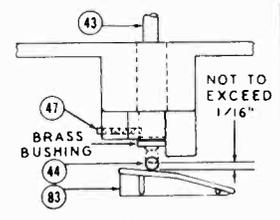
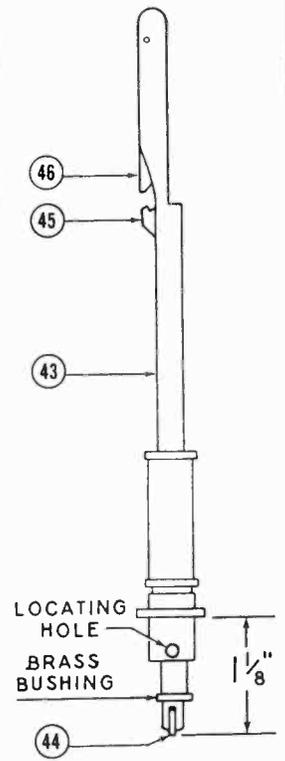

FIG. 3
FIG. 9
<p>7. Binding between Lift Rod (37) and inclined plane of Lift Arm Assembly (83).</p> <p>8. Center Post Roller (44) being compressed too far.</p> <p>9. Weak Motor (62).</p>	<p>To check for this action proceed as follows:</p> <ol style="list-style-type: none"> Replace Lift Rod (37) and Spring (38) taken off in steps 6d and 6e. Leave Center Post (43) in same position as in step 6g. Turn Control Knob (52) to "REJ." position and rotate Turntable (48) by hand until Lift Arm Assembly (83) has moved in one direction as far as it will go and is about to return. Raise Lift Rod (37) by pulling up. It may still be contacting the inclined plane of Lift Arm Assembly (83) but it should not bind. If binding does occur, check for bent lift arm bearing shaft. It may be necessary to remove Fibre Washer (84), which may be under Lift Arm Assembly (83), to lower the arm. <p>To check for this action proceed as follows:</p> <ol style="list-style-type: none"> Replace Center Post (43) released for steps 6g and 7b. Turn Control Knob (52) to "REJ." position and rotate Turntable very slowly by hand until Center Post Roller (44) reaches position on inclined plane of Lift Arm Assembly (83) illustrated in Fig. 3. It will be noted that "Brass Bushing" has also risen but at this point stops. A further movement of Lift Arm Assembly (83) causes roller shaft to move up into "Brass Bushing" a distance not to exceed $\frac{1}{16}$". Should the latter movement exceed this, it may cause the Lift Arm Assembly (83) to bind due to excessive pressure. In that event check the following: <ol style="list-style-type: none"> Bearing for Lift Arm Assembly must be square with the changer Base Plate (25). Remove any fibre washer between metal washer and bottom of Lift Arm Assembly (83). Center Post may be too long. The critical $1\frac{1}{16}$" dimension shown in Fig. 9 should not be exceeded. <p>After checking the preceding eight items and relieving any binding action, replace Idler Wheel (63). Should the changer then continue to stop during a change cycle, it may be assumed that the motor is weak (has low torque) and should therefore be replaced.</p>
Center Post (43) and Bearing Race (50).	To remove Center Post (43) loosen Set Screw (47) and withdraw post from top of changer. Turntable Washers (49) and Bearing Race (50) are held in place by Retaining Ring (51). To replace Center Post (43) first be sure that Turntable Washers (49) and Bearing Race (50) are in place. Next, insert Center Post (43) from top of changer and tighten Set Screw (47) making sure screw enters "Locating Hole" at base of Center Post (43) (see Fig. 9 and 14.)